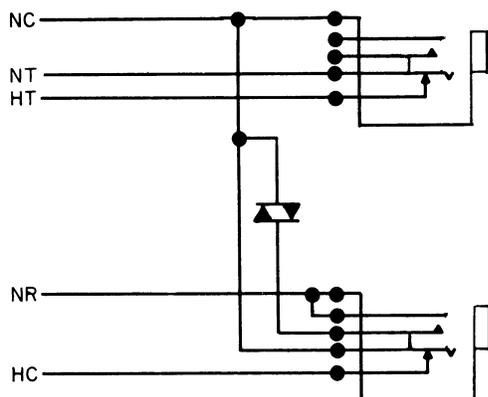
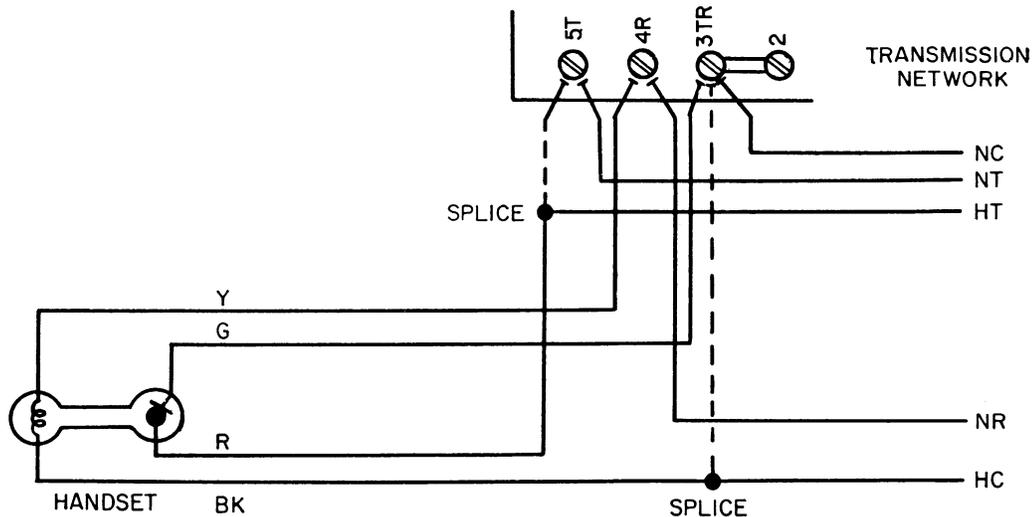

Figure 3. Jack Box Kit Schematic Diagram.
Figure 4. Connection Diagram of a Standard Auxiliary Headset Installation on a Type 80 Dial Telephone.
1.03 The standard arrangement of the auxiliary headset consists of an operator's headset and the jack box kit shown in Figure 2. The schematic of the jack box kit is shown in Figure 3. Insertion of the headset cord plugs into the jacks automatically disconnects the elements of the telephone handset, and connects the transmitter and receiver of the auxiliary headset in their place. Plugging in the headset when using the standard jack box kit, does not take over the function of the associated telephone hookswitch. Therefore, the handset of the associated telephone set must remain off-hook when the auxiliary headset is being used.
- (1) Install the associated dial telephone set according to the appropriate section in this division of General System Practices.
- (2) Assemble the jack box kit as follows:
- (b) Using 10-conductor, 26 AWG stranded cordage of adequate length to reach to the associated telephone set from the final location of the jack box, wire and solder the jacks as shown in Figure 3. Leave sufficient slack to permit moving the telephone set about its area of location.
- (3) Using mounting hardware appropriate for the type of mounting surface, mount the jack box in the desired location.
- (4) Remove the telephone set housing.
- (5) Terminate the free end of the cordage leads with pressure-cripped spade lugs, and connect to the associated telephone set as shown in Figure 3 and Table 1 (as appropriate). Refer to Figure 4 for a typical example of the wiring at the telephone set transmission unit.